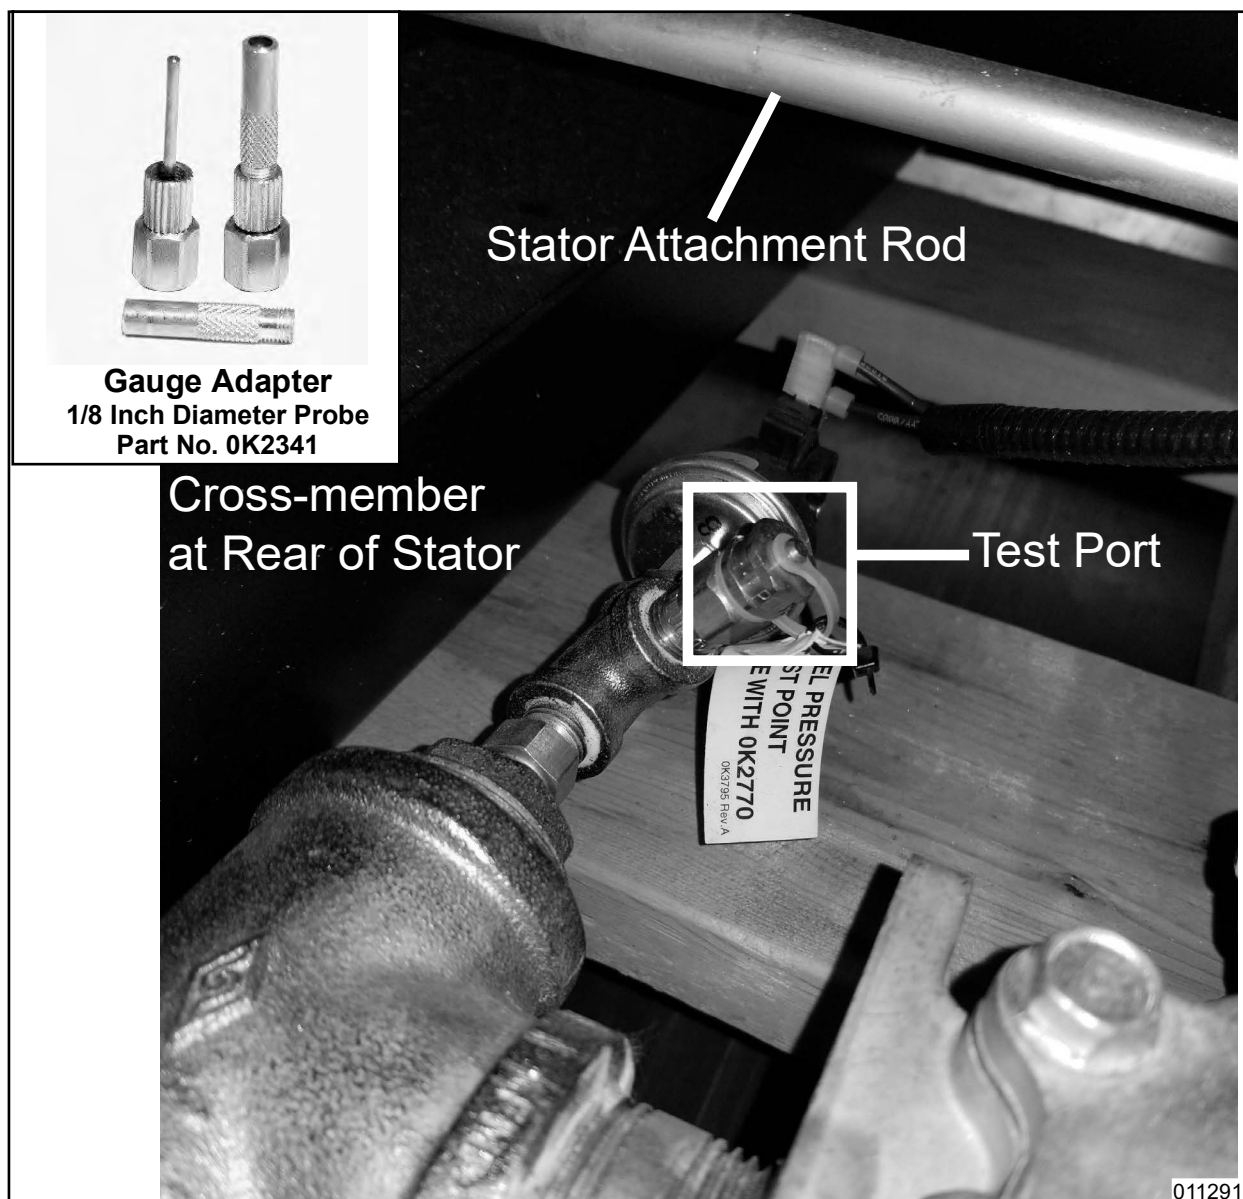

Figure 4-5. Fuel Pressure Test Point
1. See Figure 4-5. Using a suitable pressure gauge or water manometer, measure fuel pressure to generator at a test port located at fuel solenoid shutoff valve(s).